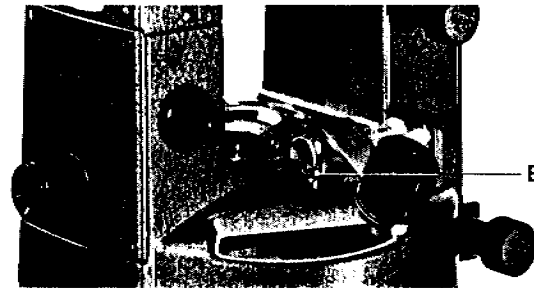

Fig. 12 E Adjustment Nut
2. With adjusting pin, by turning adjustment screw, bring the bubble to a point halfway between moved point. (See Fig. 12.) And by turning foot screw C, bring the bubble to the center.